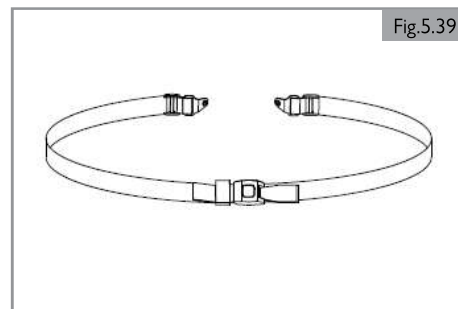

Fig.5.39
1. Loosen (A) by one turn.
2. Adjust (B) to the desired position.
3. Tighten (A).
5.13 Lap belt / seating positioning belt (Fig. 5.39)**⚠ DANGER/WARNING!**